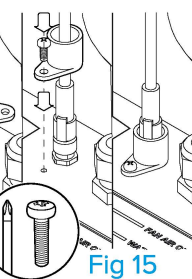

Fig 15
3. Connect the M8 sensor cable to "sensor connection" on module. Align pins, tighten by hand and secure the shroud using the fixing provided (figure 15).